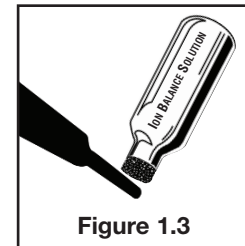

Figure 1.3
3. When searching for an analog signal in a cable with excessive noise, apply the supplied ion balancing solution to the top, bottom, and sides of the sensor tip and allow to dry. (Figure 1.3) You will notice a very significant decrease in the noise level. If the tip becomes dirty simply clean with alcohol and let it dry. Reapply the ion balancing solution, when needed. You will discover that the ion balancing solution is only needed when working in cables with excessive noise levels.